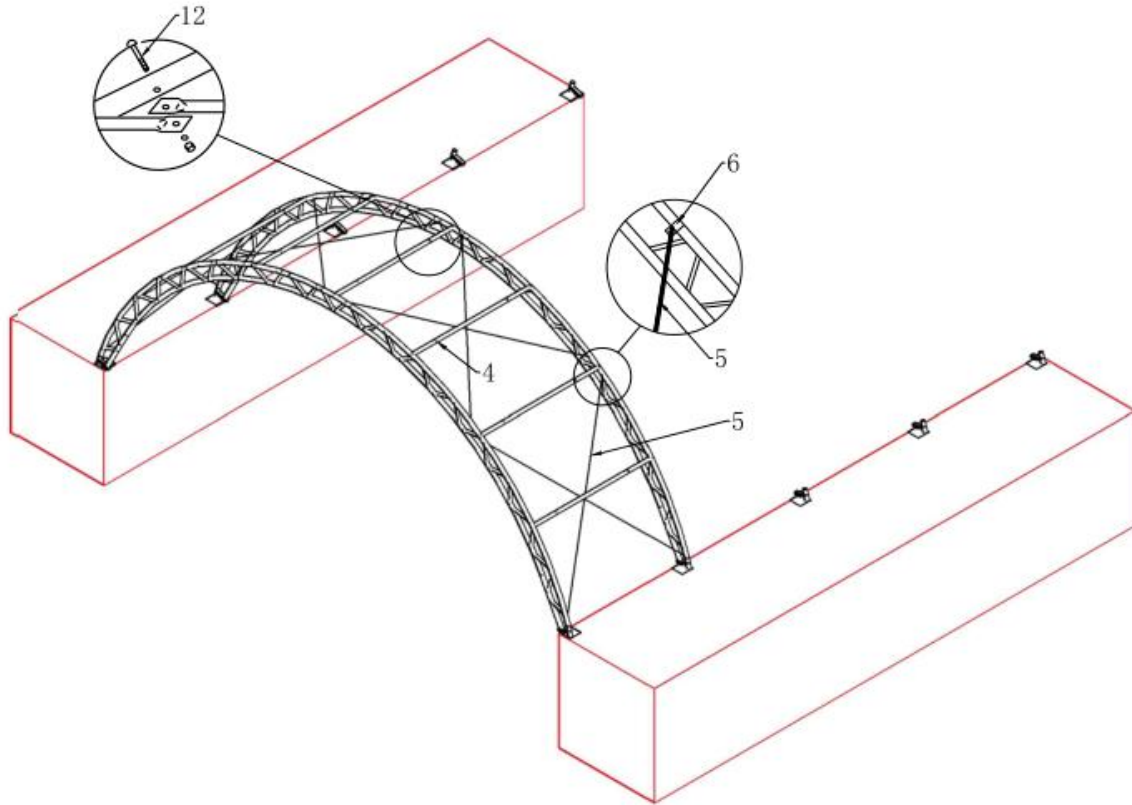

Figure 5
2. After finish installing the first two arches, connect the Connection purlin(No.4) to the arch by using Carriage bolt10*80(No.12).Then install the third arch into base plate and connect other purlins. Install the steel wire(No.5) by using clip(No.6) to arch frame.(As figure 5)